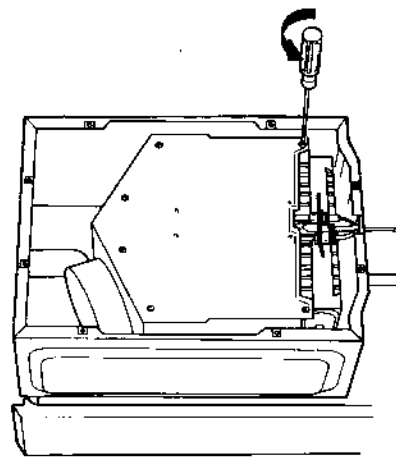

Fig. 29
8.7.3 Remove front of combustion chamber by releasing six screws (fig 29)